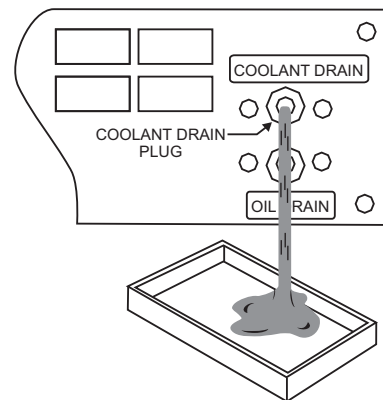

Figure 35. Coolant Drain Plug
1. Remove radiator coolant plug (Figure 35) located at the bottom of the generator enclosure and drain radiator coolant. Open the radiator cap while draining. Remove the overflow tank and drain.